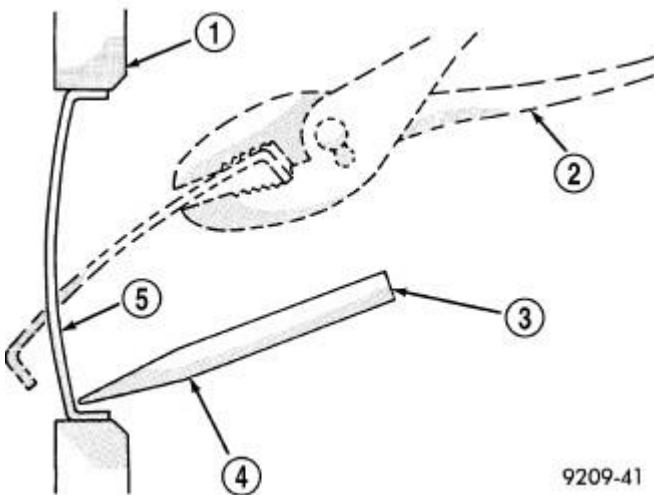

Fig. 197: Core Hole Plug Removal
Using a blunt tool such as a drift (4) and a hammer, strike the bottom edge of the cup plug (5). With the cup plug (5) rotated, grasp firmly with pliers (2) or other suitable tool and remove plug. Refer to **Fig. 197**.